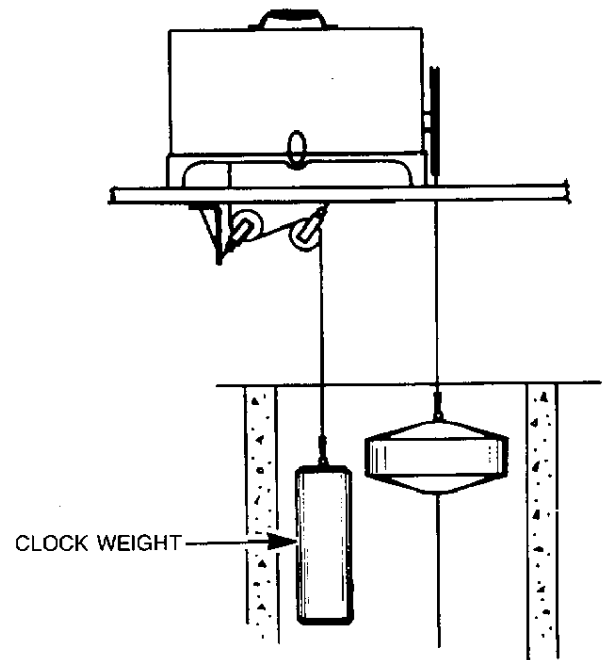

Figure 3. Positioning to Accomodate Weight Drive
- Step 12. If your setup includes the round float and the Weight-Driven Timer, refer to Figure 3 to do the positioning. If not, proceed with step 13.